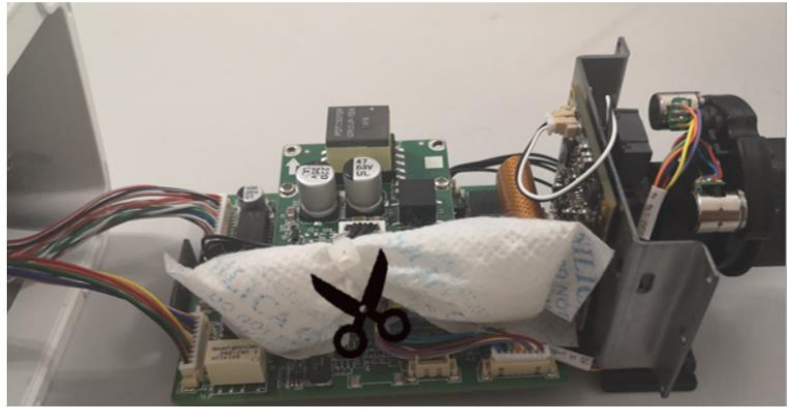

Fig 5
- ⑤As shown in Figure 5, use scissors to cut off the cable tie that binds the desiccant.
- ⑥Open the outer packaging of the self-provided desiccant, quickly put 2 bags of 10g of new desiccant in the original position, and bundle it with the self-provided cable tie (or not bundled, but it needs to be placed in a place that does not affect the subsequent assembly and product use).
- ⑦Follow the above disassembly steps to restore the product parts to their original state.